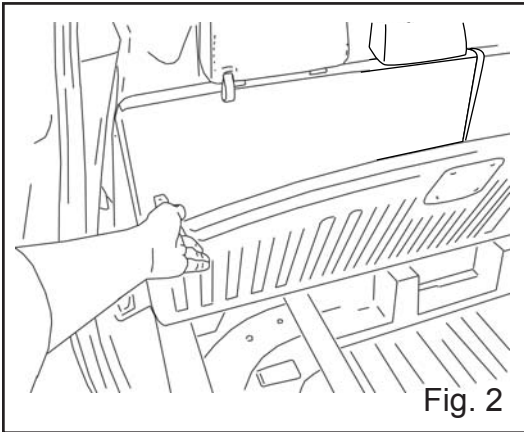

Fig. 2
- 2 Lift rear storage compartment cover. (Fig. 2)